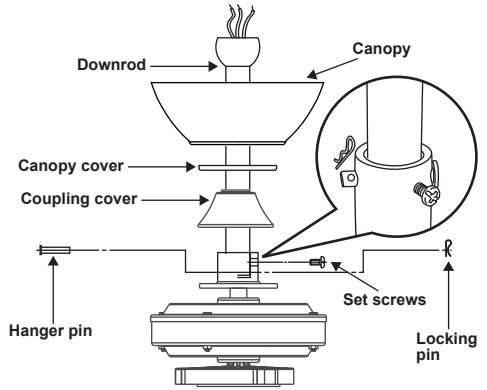

Figure 6
Step 5. Align the holes at the bottom of the downrod with the holes in the collar on top of the motor housing (Fig. 6). Carefully insert the hanger pin through the holes in the collar and downrod. Be careful not to jam the pin against the wiring inside the downrod. Insert the locking pin through the hole near the end of the hanger pin until it snaps into its locked position, as noted in the circle inset of Fig. 6.